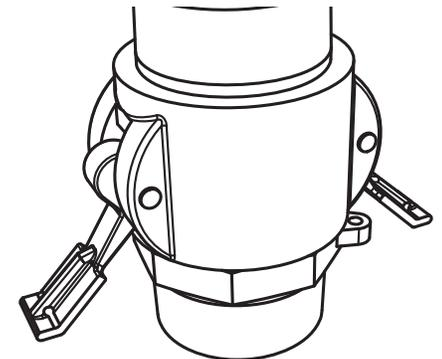

Figure 4
- 3.) Drop the female connection over the male (Figure 4) and rotate the gauge head for proper alignment to the gauge board.